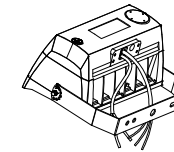

Figure 6
STEP 2: Install two small screws (FIGURE 6)